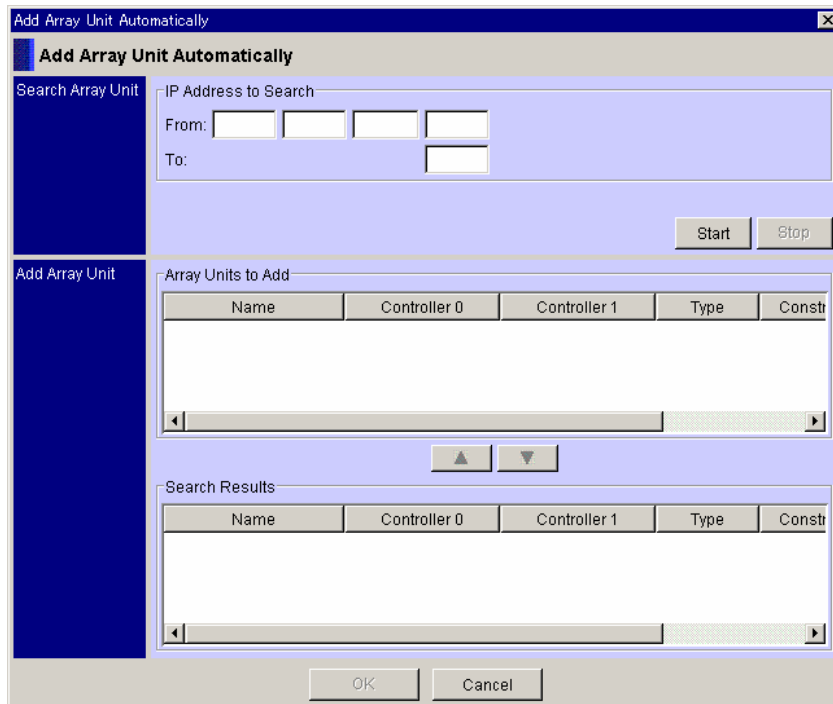

Figure 4.13 Add Array Unit Automatically Window (before search)
2. Open the **Add Array Unit Automatically** window by selecting **Edit → Add Automatically** (see Figure 4.13).